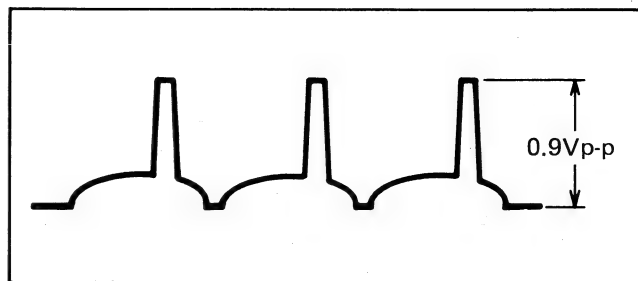

Fig. 5
4. Adjust the beam control VR607 so that signal clipping occurs at 0.9 volts peak-to-peak. (See Fig. 5.)